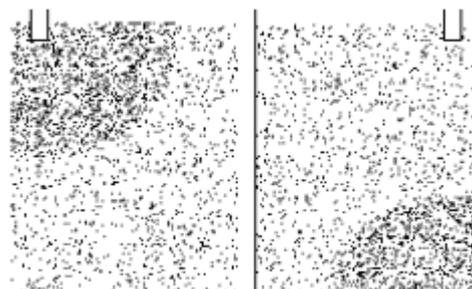

Figure 8. Make a Centre Hinge
3. Apply a piece of with 2.5 to 5 cm (1 or 2 inch) wide masking tape through the Center of the graphic to make a hinge. The hinge should be perpendicular (at right angles) to the longest distance. See Figure 8.